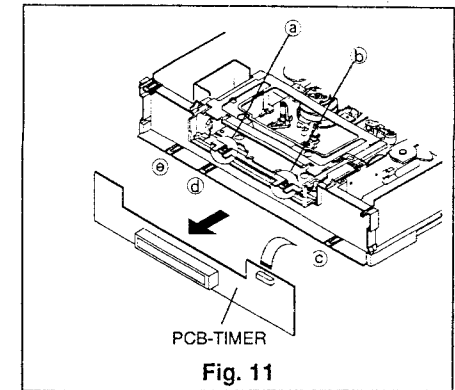

Fig. 11
- ③ Remove five catches (a)~(e), shown in Fig. 11, then remove the PCB-TIMER.